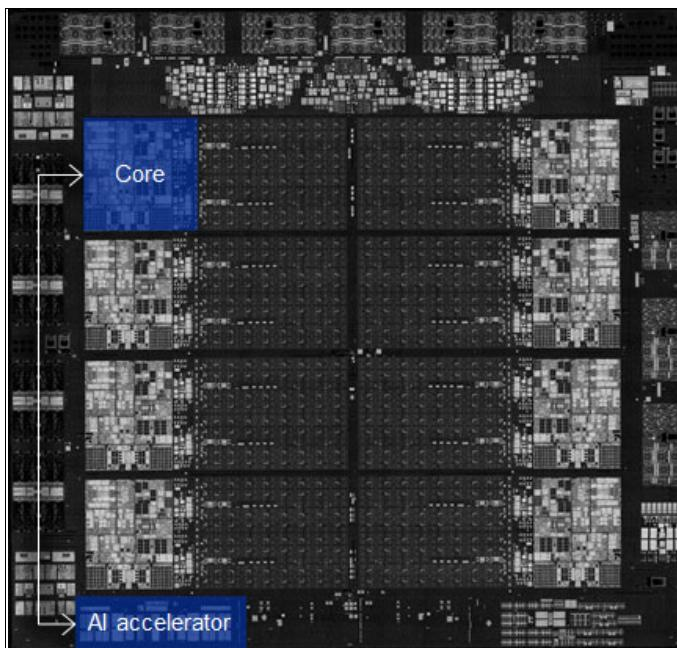

Figure 12-7 IBM z16 A02 and IBM z16 AGZ Processor chip - AIU location
In August 2021 IBM announced new generation of IBM zSystems processor, Telum with new Artificial Intelligence (AI) accelerator (Figure 12-7), an innovation that will bring incredible value to the applications and workloads running on IBM Z.